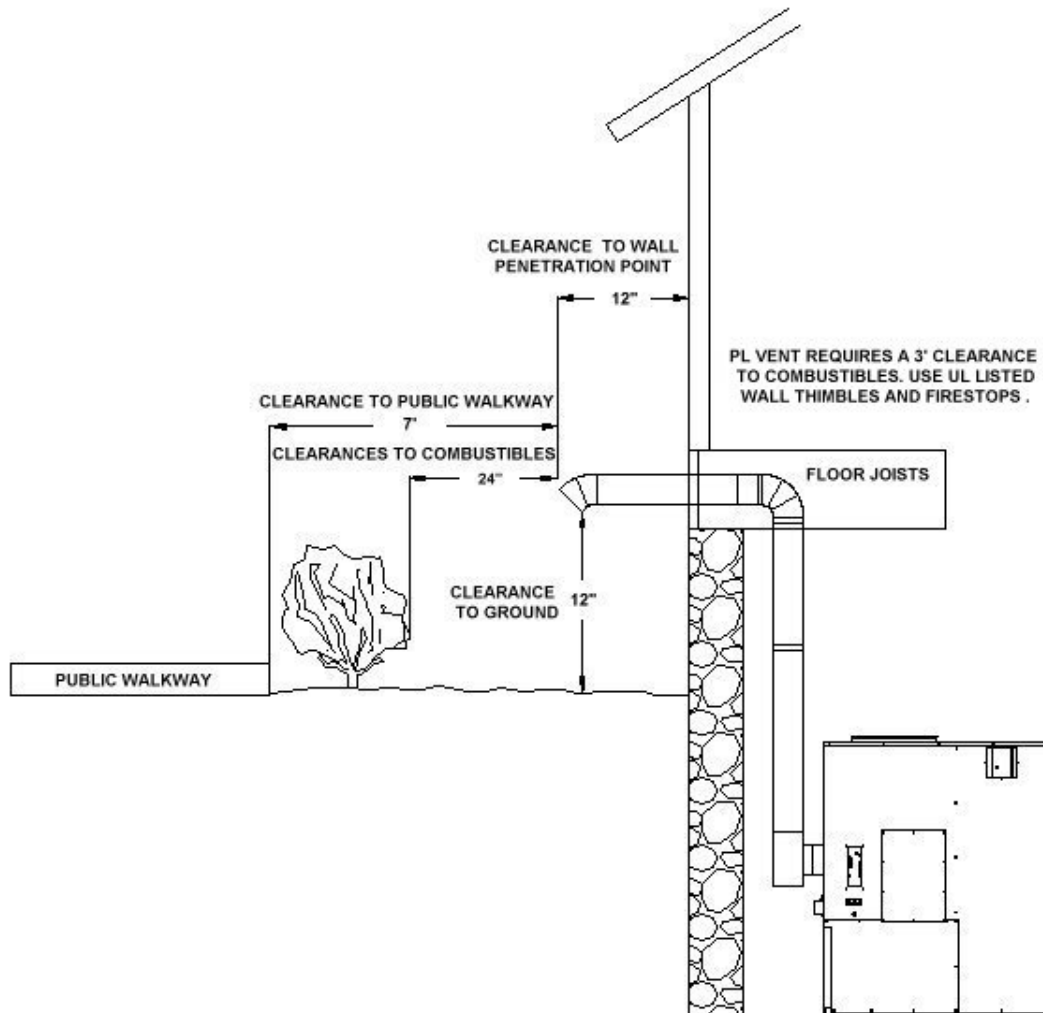

Figure 5
2. It is not recommended to run vertical venting outside the heated environment where the furnace is installed. Running a venting system in a cold environment may cause the flue temperatures to cool down too much for adequate drafting. See figures 5 & 6 on pages 19 & 20.